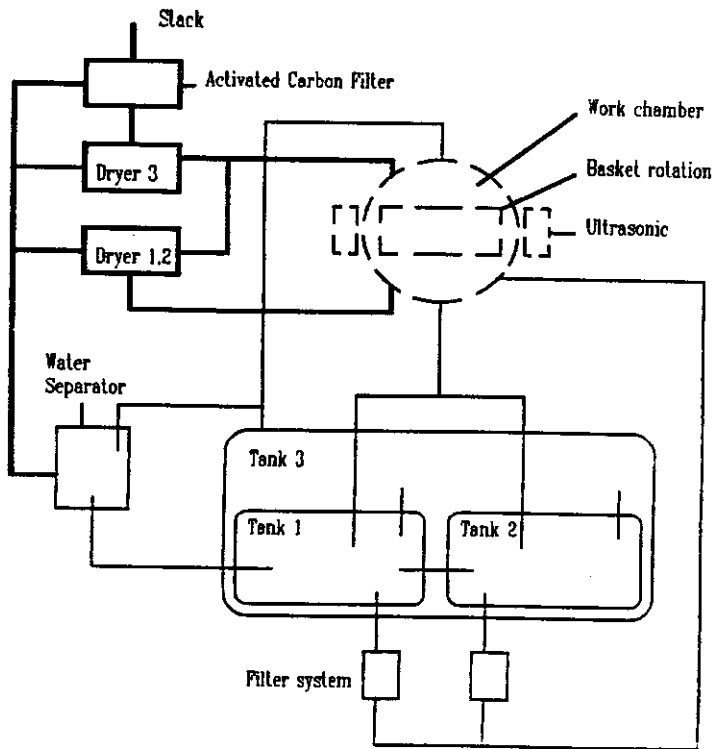
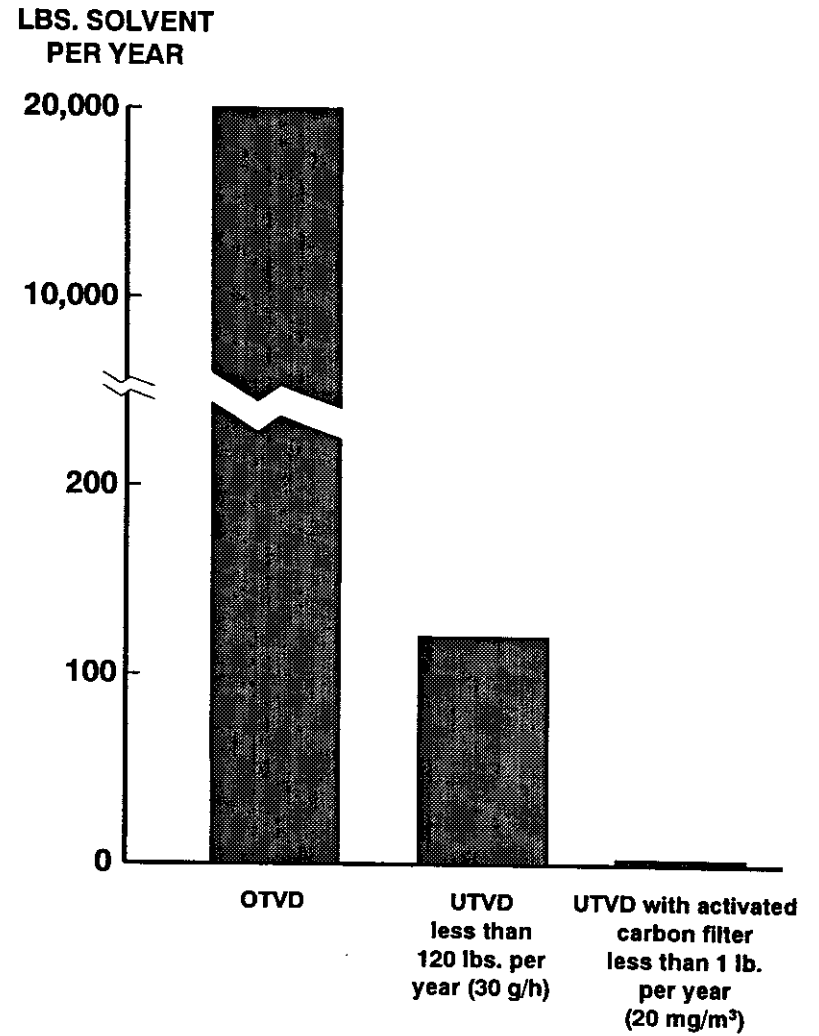

Figure 2
Figure 3
h. All emissions, stack emission and work area emissions, are reduced to levels which are acceptable for the environment and your employees³. Stack emissions (Figure 2) are 30 g solvent per hour or even 20 mg/m³ if required. The work area emissions (Figure 3) are less than 10 ppm with any solvent used.